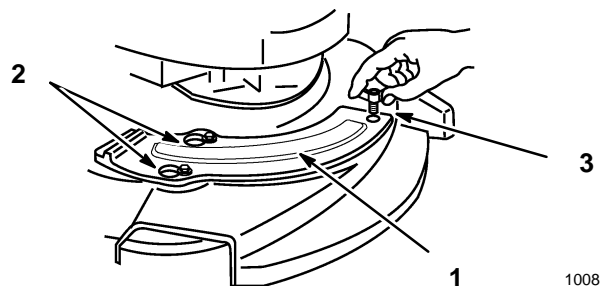

Figure 41
6. Slide the mulch plate over the shoulder bolts (Fig. 41).
8. Secure the mulch plate with the wing screw (Fig. 41).